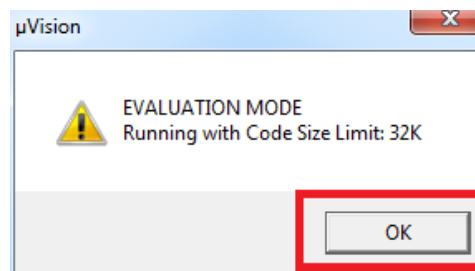

Figure 2.7: Keil IDE: Evaluation Mode Code Size Warning Dialog Box
4. Click OK when you are prompt with the code size limit of 32K in evaluation mode warning dialogue box (see Figure 2.7).